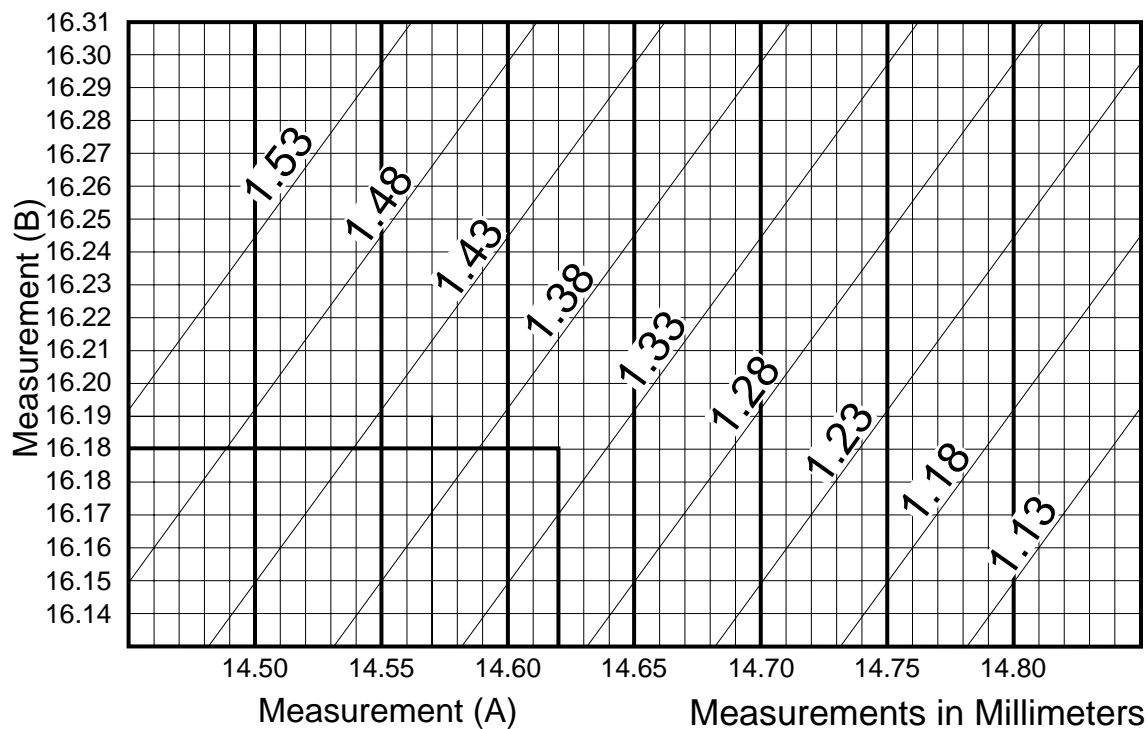

Figure 13-101 Crankshaft Shim Table
3. Locate the measurements on the Crankshaft Shim Table. Follow lines to where the recorded measurements intersect (**Figure 13-101, Page 13-45**).
4. Choose the next smaller shim from the table. Example: Measurement A is 15.87 mm and B is 17.66 mm. The correct crankshaft shim (5) is 1.53 mm.